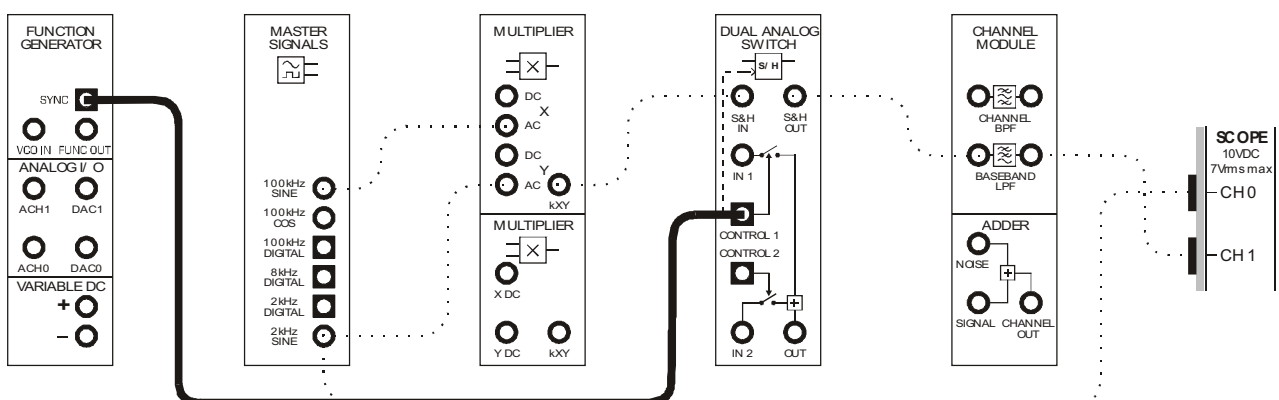

Figure 6
27. Modify the set-up as shown in Figure 6 below.